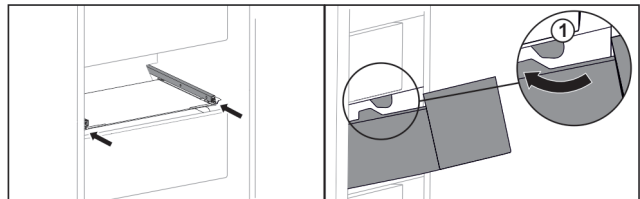

Fig. 112
- ▶ Guide drawer around the stoppers Fig. 112 (1).